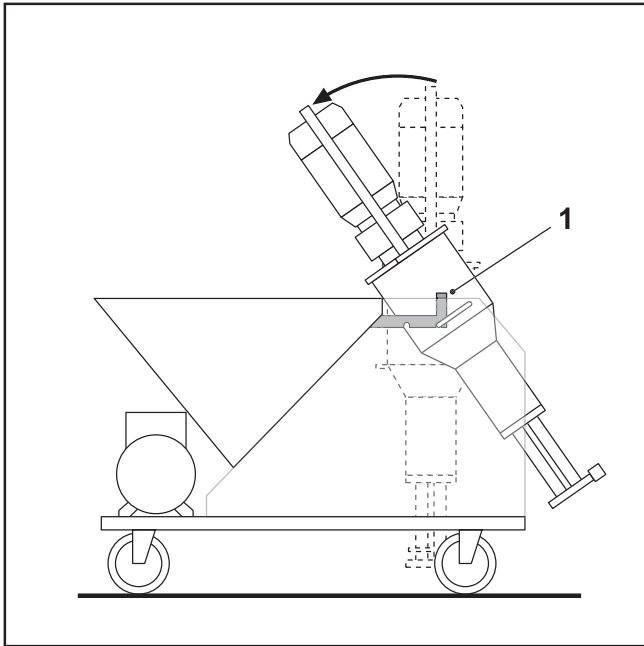

FIG.33
- Incline and block the mixing chamber unit in this position (FIG.33).